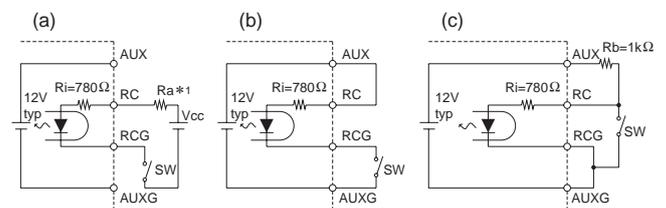

Fig.2.3 Examples of connecting remote ON/OFF circuit
■ You can operate the remote ON/OFF function by sending signals to CN1/CN2. Please see Table 2.1 and Table 2.2 for specifications and Fig.2.3 for connecting examples.
- ① The output stops when a current flows to RC.
- ② The current flown to RC is a 20mA max.
- ③ When the output voltage is turned off through the remote ON/OFF circuit, the built-in fan slows down.
- ④ If the output voltage is turned off through the remote ON/OFF circuit, the WRN signals and the PG signals keep "Low".
- ⑤ Description in this section is based on the assumption that you will use one unit alone. If you are planning to use the units in parallel operation or use multiple units for a single system, please check necessary voltage and current values.
Table 2.2 Specifications of remote ON/OFF (Case of Fig.2.3)